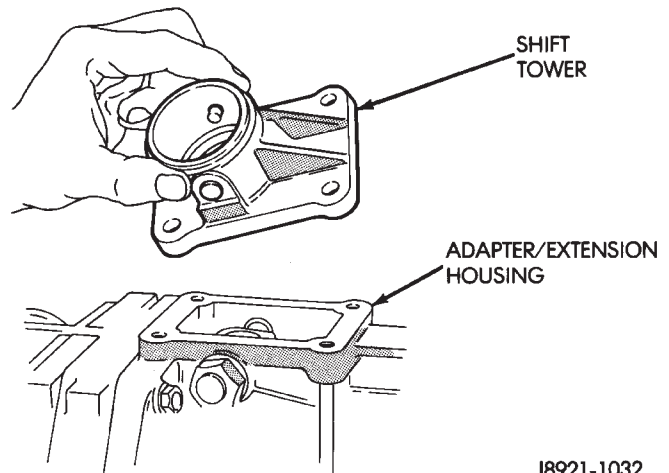
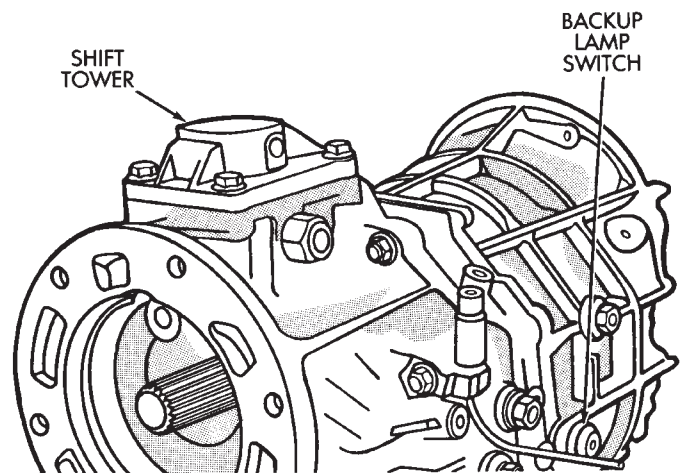

Fig. 47 Install Shift Tower
Fig. 48 Install Backup Lamp Switch
- (19) Install shift tower gasket onto shift tower.
- (20) Install the shift tower oil deflector and gasket onto the adapter or extension housing.
- (21) Install shift tower onto transmission case (Fig. 47).
- (22) Install bolts to hold shift tower to transmission case. Tighten tower bolts to 18 N·m (13 ft. lbs.) torque.
- (23) Install new metal o-ring onto the backup lamp switch.
- (24) Install backup lamp switch (Fig. 48). Tighten switch to 44 N·m (32.5 ft. lbs.) torque.
- (25) Install new seal in adapter/extension housing.
- (26) Install vehicle speed sensor, if necessary.